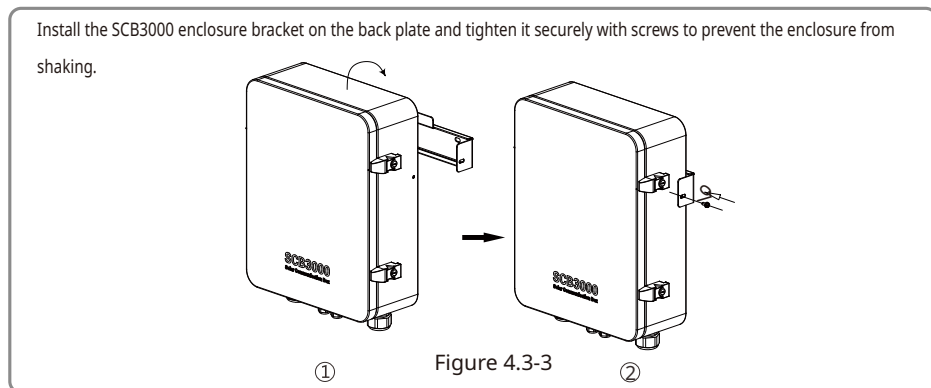

Figure 4.3-3
3. Install the enclosure as shown in Figure 4.3-3.